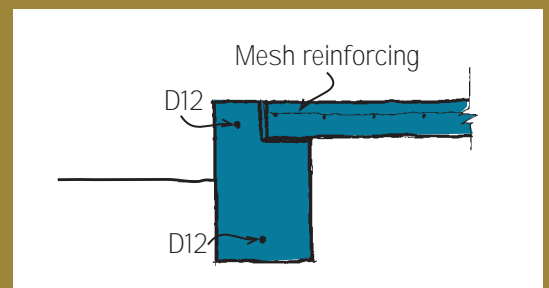

Figure 4: Slab confined by foundation wall
- Tying steel, connecting the perimeter footing, and localised thickenings to the slab all increase the likelihood of early-age thermal cracking and restrained shrinkage. For single-storey construction, no tying steel is needed from the slab to the foundation perimeter, provided the detail shown in Figure 4 is used.